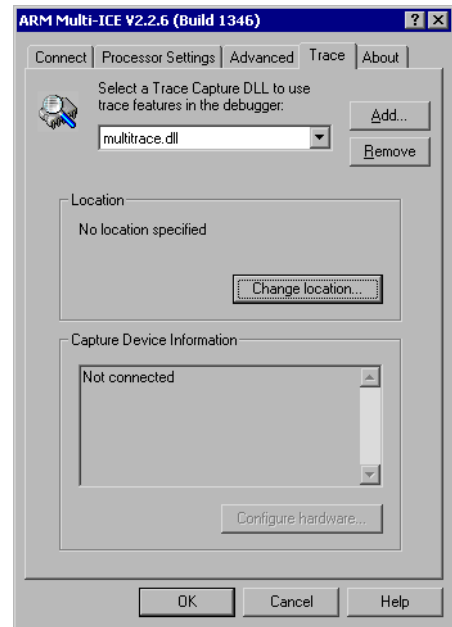

Figure B-4 MultiTrace configuration
14. With `multitrace.dll` selected, the MultiTrace configuration controls are added to the Multi-ICE Trace tab (Figure B-4 on page B-6). Configure MultiTrace as described in the MultiTrace User Guide.